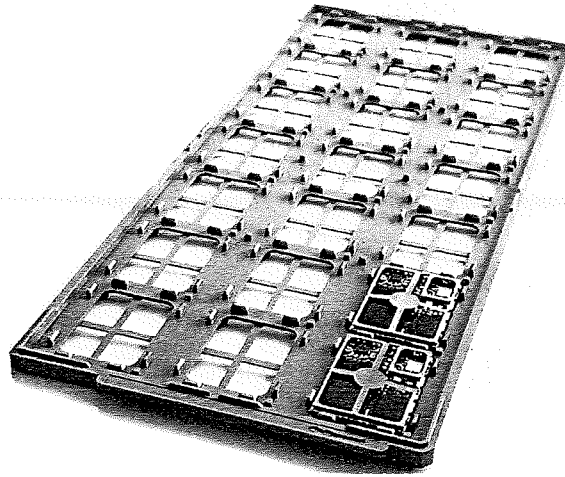

Figure 3 : Plastic product
5. (a). Two engineers are given a task to design an injection moulding mould for their company new product (Figure 3 with dimension of 30 cm x 10 cm and thickness of 2 mm). Engineer A wants to use one gate in the design while engineer B decided to use two gates.
- (ii). Explain two (2) problems that will occur if one gate or two gate is used ?